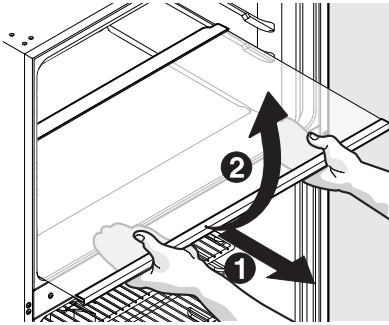

Figure 1
2. Lift the freezer shelf up and out. Set aside. See Figure 1.